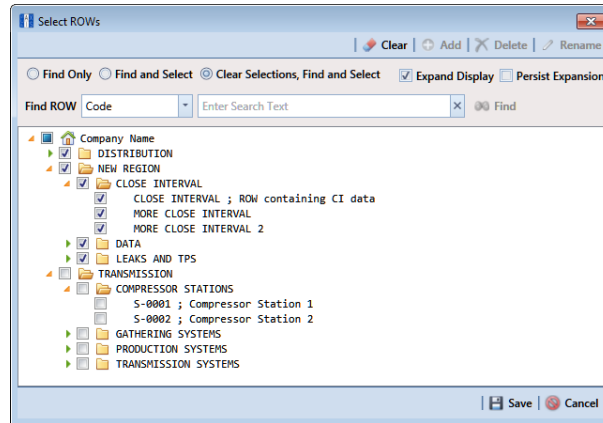

Figure 7-114. Select ROWs
- 1 Select one or more pipeline segments in the *Select ROWs* window (Figure 7-114). Click  **Save** to close the window.